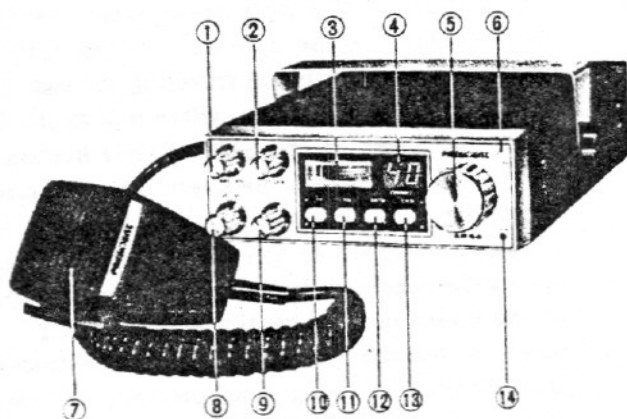

Figure 2-7. CB Transceiver Unit
Operation of the CB transceiver unit, figure 2-7, is regulated by the Federal Communications Commission (FCC). According to FCC rules, the transceiver is designed for licensed Class D operation on any of the 40 channels designated as the Citizen's Band and you are required to read and understand Part 95 of the FCC regulations prior to operating your unit. (A copy of this document is supplied with the CB unit.) Also, you MUST obtain a Class D Station License before operating the CB. Transmitting without a license can result in penalties. If you do not have a license, fill in the application provided with the CB and mail it to the FCC. No oral or written examinations are required.
**CONTROLS AND INDICATORS** — The functions of the controls and indicators shown in figure 2-7 are described in the following paragraphs:
**PRESS-TO-TALK SWITCH (7)** — Used during operation to control reception and transmission. Press the switch in to transmit; release to receive.
**ON-OFF/VOLUME CONTROL (8)** — During normal CB operation, turns unit on and off and controls speaker volume.
**SQUELCH CONTROL (9)** — Allows operator to set receiver squelch so that only signals above the set level are heard. Weaker signals and background noise are eliminated.
**RF GAIN CONTROL (2)** — Adjusts the receiver sensitivity to reduce interference from weaker transmitters on a busy channel. When turned fully clockwise, the receiver is at maximum sensitivity. As the control is turned counterclockwise, the receiver becomes less sensitive to interference from weaker transmitters, resulting in clearer reception of the desired signal. The RF GAIN control is very effective when used in a crowded urban area.
**ANL CONTROL (11)** — Reduces ignition noise and other man-made noises that may make the received signals unintelligible.
**TX/RX INDICATOR (6)** — The transmit/receive indicator lights red when transmitting, green when receiving.
**CHANNEL INDICATOR (4)** — Displays selected channel.
**PA/CB SWITCH (10)** — When the public address switch is in PA position, the operator can use the transceiver as a PA system through the roof-mount speaker. Keep switch in CB position for normal operation.
**S/R F METER (3)** — S/R F scale of meter indicates strength of received signals in "S" units. Relative RF output power of the transmitter is also shown.
**CHANNEL SELECTOR (5)** — This switch selects the desired channel for transmission and reception. All channels, except channel 9, may be used for communications between stations operating under different licenses. Channel 9 has been reserved by the FCC for emergency communications involving the immediate safety of individuals or immediate protection of property. Channel 9 may also be used to render assistance to a motorist. This is an FCC rule and applies to all operators of CB radios.